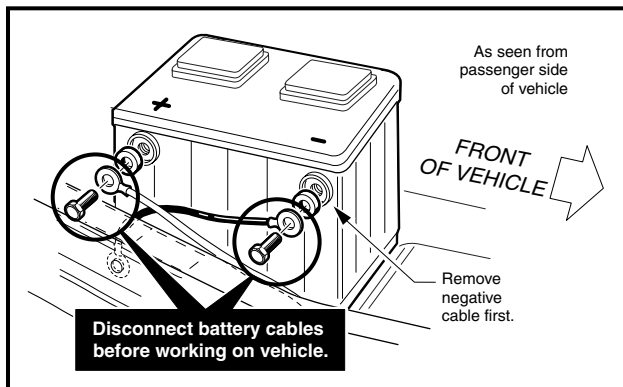

Figure 1 Battery Disconnect – Gasoline Vehicle
- **To avoid unintentionally starting the vehicle, disconnect the batteries as shown (Figure 1 and Figure 2).**
- 6.1. Connect the battery cables, positive (+) cable first. For gasoline vehicles, tighten hardware to 20 ft-lb (27.1 N-m) (**Figure 1**). For electric vehicles, tighten hardware to 110 in-lb (12.4 N-m) (**Figure 2**). Coat terminals with Battery Terminal Protector Spray (CCI P/N 1014305) to minimize corrosion.